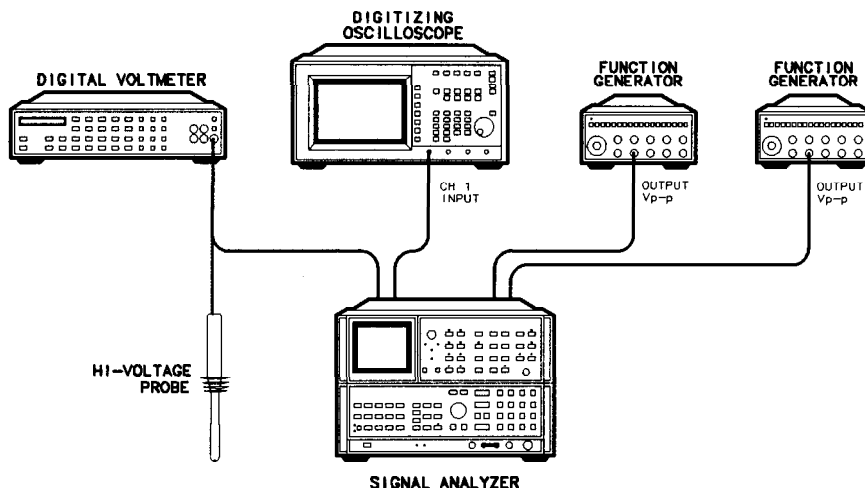

Figure 3-5. High Voltage Adjustment Setup
2. Remove the top cover from the IF-Display Section, and connect the equipment as shown in Figure 3-5 and described in the following steps.